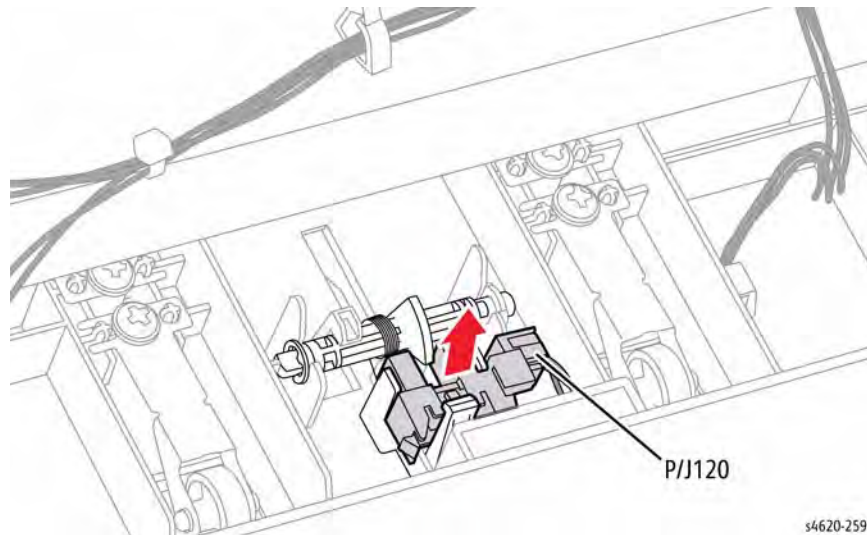

Figure 1 Remove the Finisher Exit Sensor
6. Disconnect P/J120 to remove the sensor, Figure 1.